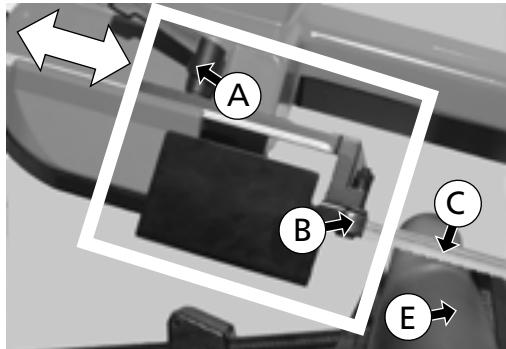

Fig. 23
1. Loosen the handle (A) - (Fig. 23).
Elements of Fig. 23 - 24